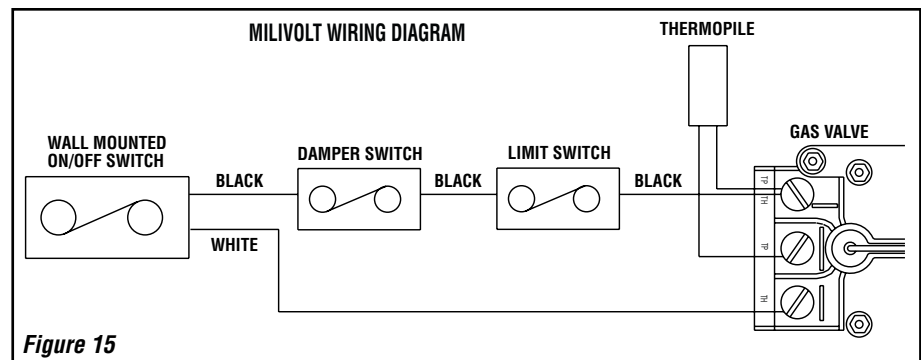

Figure 15
A. Millivolt Wiring – Units are fitted at the factory with an SIT millivolt gas control valve. The valve has been tested with and approved for use with these appliances and is listed accordingly. Refer to **Figure 15** for the wiring diagram.
The gas valve has been set in place and has been pre-wired at the factory. Locate the wall switch (not provided) or optional remote control in the desired location and connect the millivolt wire (see **Figure 15**).